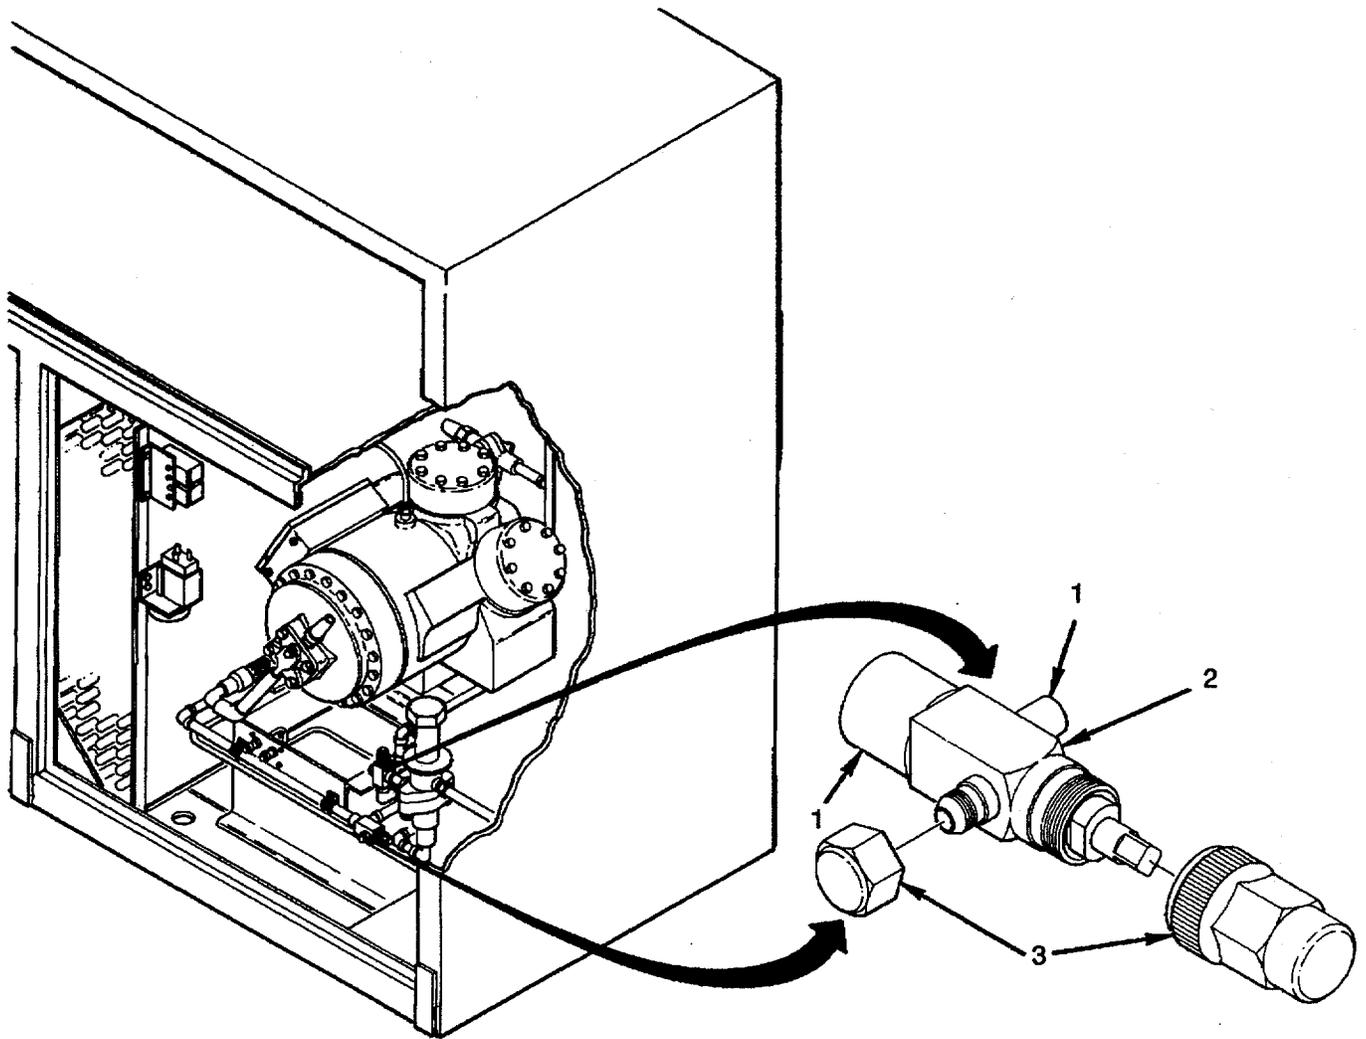

Figure 5-18. Service Valves (Head and Hot Gas Bypass)
1. Check that caps are in place and that threaded connection ends are not damaged. Replace if missing or damaged (see Figure 5-18).